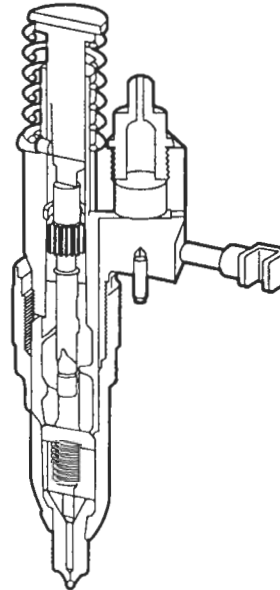

Figure 31. Cutaway View of Fuel Injector
19. Put the needle, tapered end down, into the spray tip (Figure 31.) Then place the spray tip assembly on top of the spring cage with the quill end of the needle valve in the hole in the spring cage.